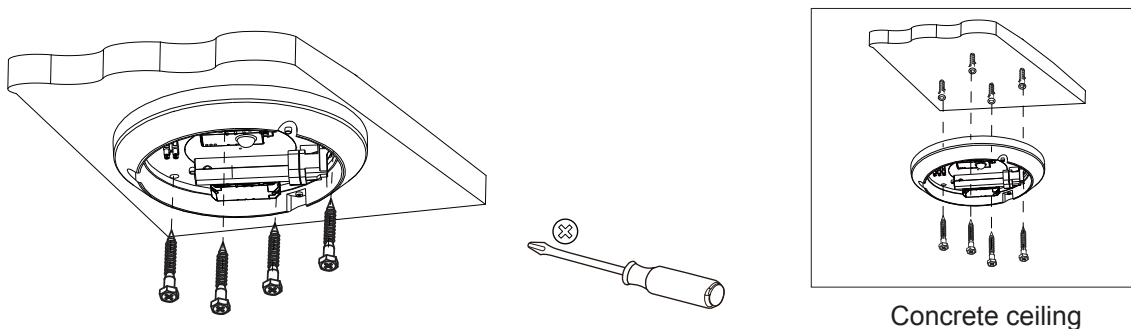

Fig.7
- Step7 Fix the base of the product on the selected place with the screws (as Fig.7)